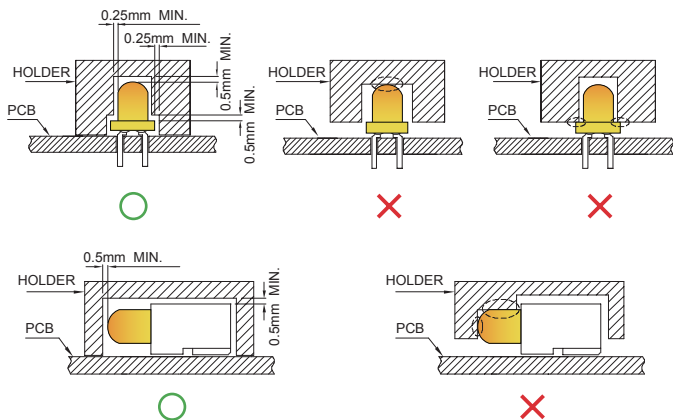

Fig. 7
4. During soldering, component covers and holders should leave clearance to avoid placing damaging stress on the LED during soldering. (Fig. 7)